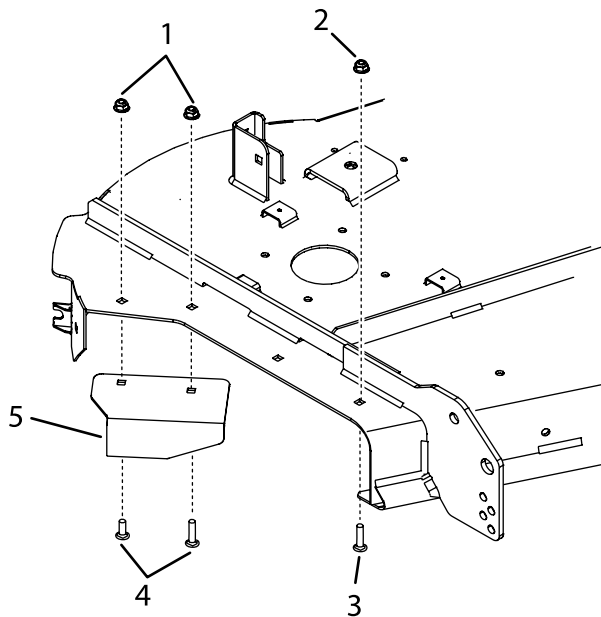

Figure 23
2. Install the existing baffle with the existing bolts and nuts after removing the plate assembly (Figure 23).
3. Install a carriage bolt and flange nut into the front hole shown in Figure 23.